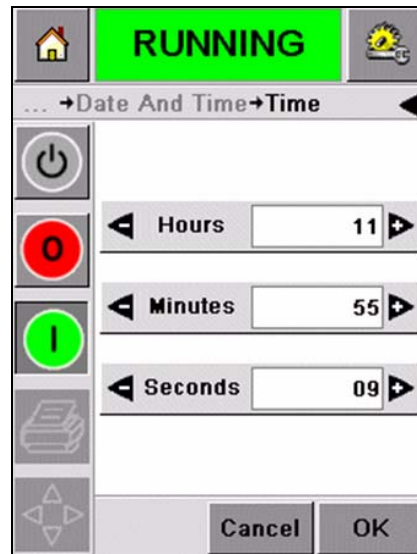

Figure 5-25: Time
- 7 Touch the *Time* icon and the time page appears (Figure 5-25).